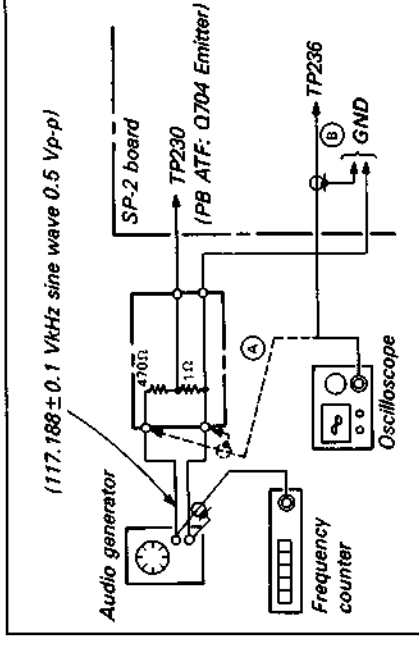

Fig. 8-7.
Signal	See Fig. 8-7
- 1) Check the output level of the audio generator with an oscilloscope and adjust so that the sine wave output level becomes 0.5 Vp-p . (Fig. 8-7 ①)